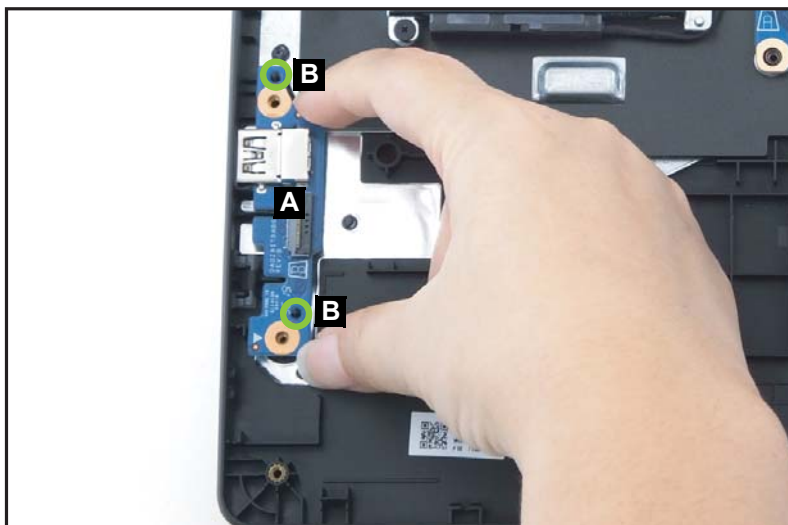

Figure 1-92. Replacing the USB Board
1. Place the USB board (A) to its compartment on the top assembly. Make sure the guide pins (B) and USB board screw hole are properly aligned (Figure 1-92).